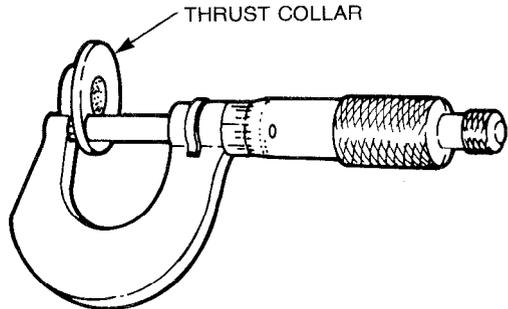

Figure 145 — Measuring Thrust Collar Thickness
- h. Using an outside micrometer, measure the thickness of the thrust collar (see Fig. 145). The standard thickness of the collar is 2.510-2.591 mm (0.0988-0.1020), replace the collar if the thickness is less than 2.489 mm (0.0980 in.).